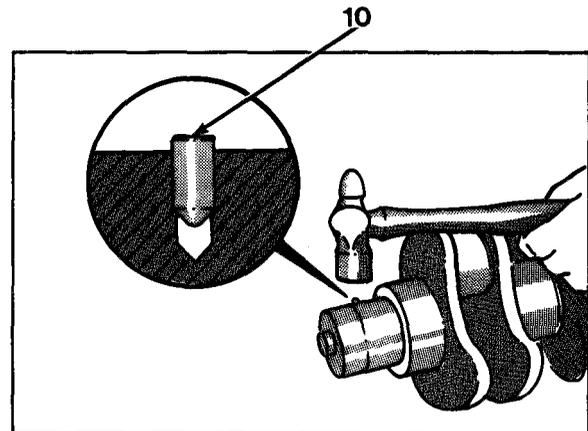

Figure 6-17
1. Using hammer, install dowel pin (10, Figure 6-17) until it bottoms out.